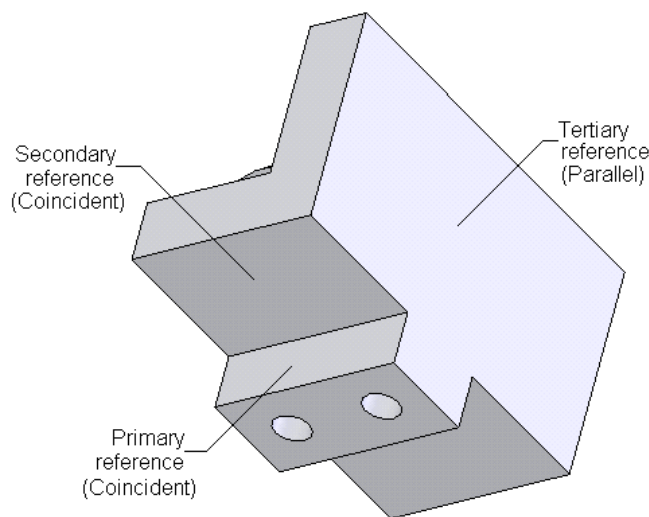

Figure 10-55 Faces to be selected as mate references
12. Similarly, create the mate reference in the Vice Jaw part document. The faces to be selected as reference are displayed in Figure 10-55. The names of the mate references should be same in both the part documents.